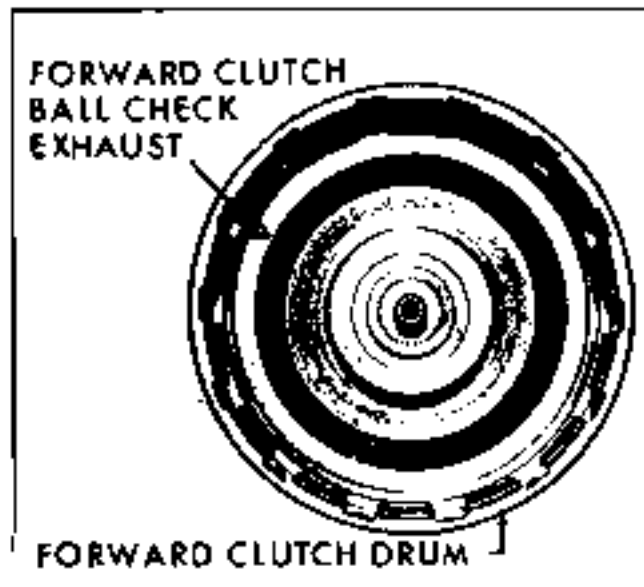

Fig. 7G-80 Forward Clutch Drum Ball Check
3. Install forward clutch piston assembly into drum (Fig. 7G-81).